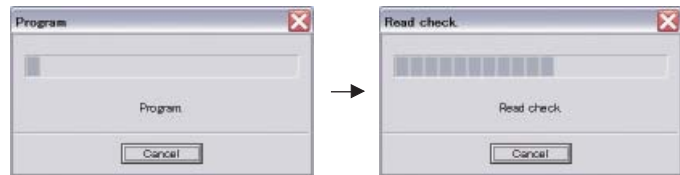

Fig. 7
7. Click [E.P.R.], then the “Erase” screen appears. (Fig. 7)
8. Click [OK] to start writing. (Fig. 7)